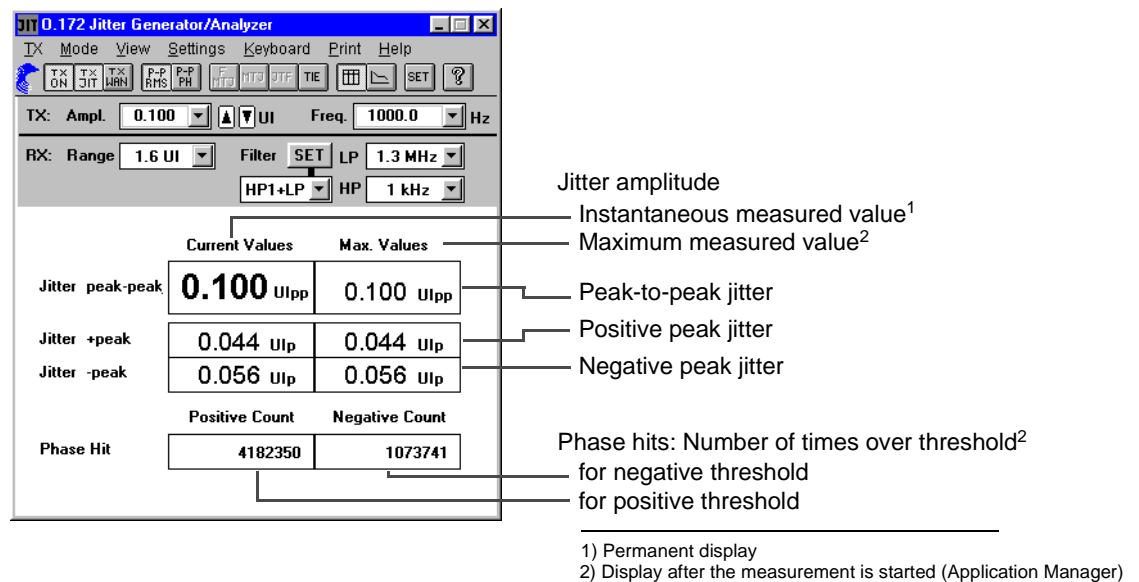

Fig. O-3 Result display for “non-automatic” measurements (numerical display)
- Current jitter values; numerical display (see Fig. O-3)